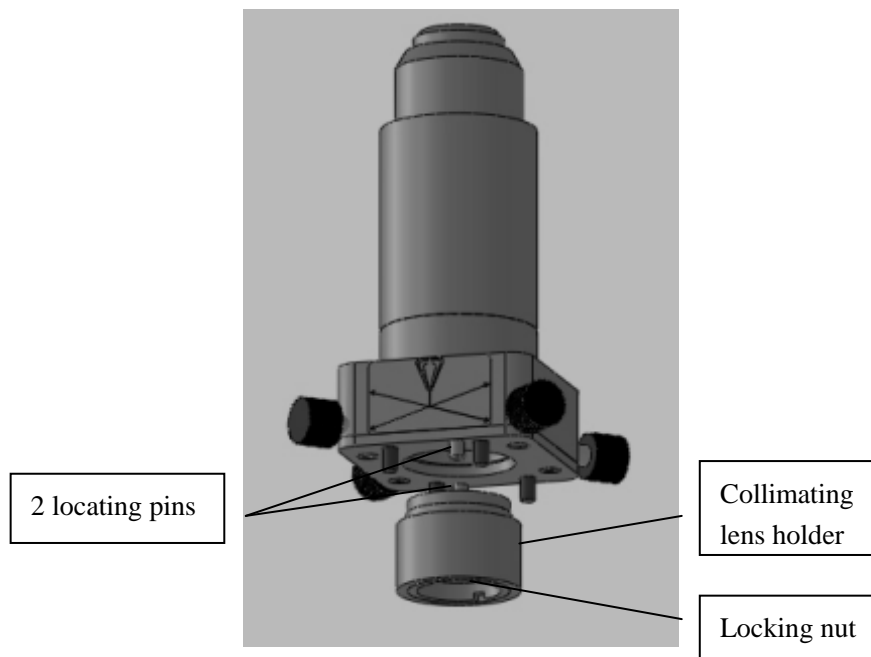

Fig.16 QBH
3. Clockwise screw the collimating lens back to the alignment module with hands, which is an shown in Fig.16.